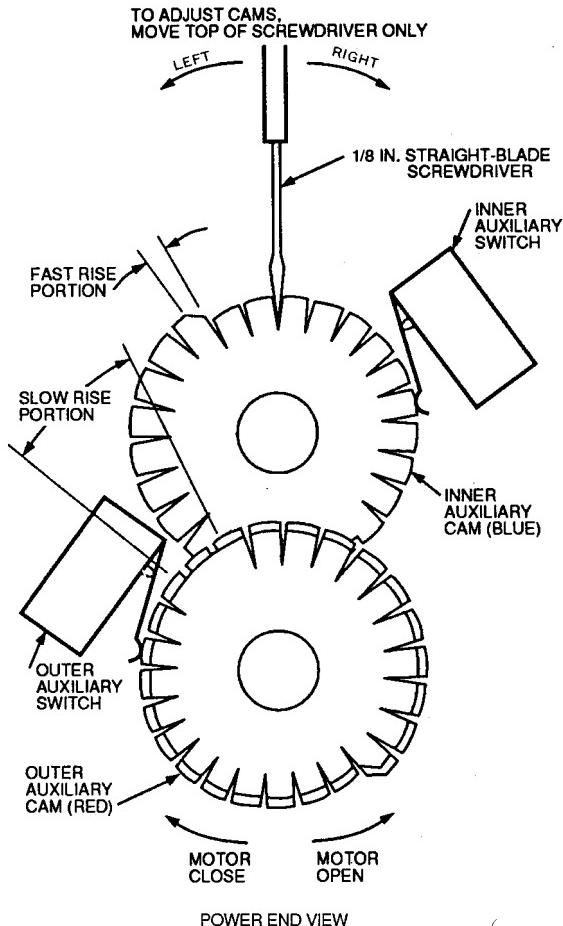

Fig. 40 — Auxiliary Switch Adjustment
4. Adjust auxiliary cam by inserting a $\frac{1}{8}$ -in. straight blade screwdriver into slot on cam and moving TOP of screwdriver to the right or left. See Fig. 40.